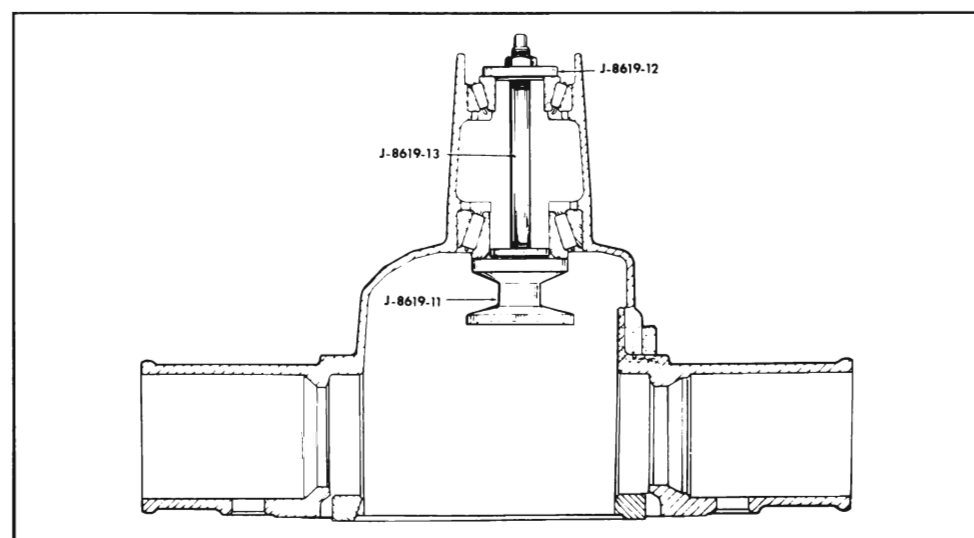

Fig. 6-21—Securing Gauge Plate in Carrier
6. Lubricate front and rear pinion bearings; then position them in their respective races in the carrier. While holding bearings in place, install Gauge Plate J-8619-11 in carrier on rear pinion bearing inner race as shown in Figure 6-21 and place Pilot
J-8619-12 on surface of front pinion bearing. Insert Stud J-8619-13 through pilot, front and rear bearings, and thread it into gauge plate. See Figure 6-21.